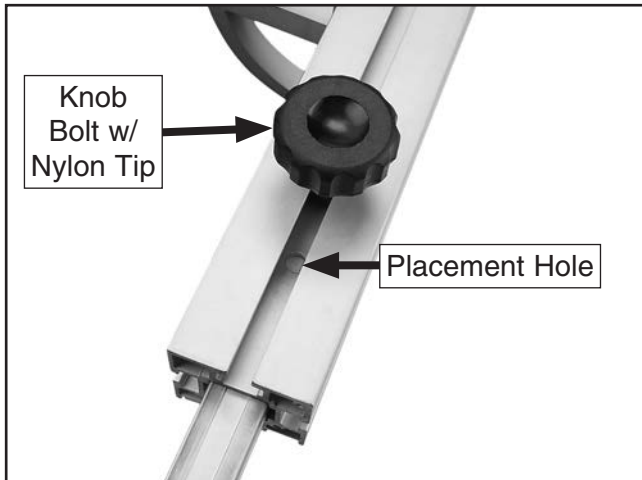

Figure 50. Knob bolt and placement hole (viewed from underneath crosscut fence).
47. From underneath right end of crosscut fence, insert M8-1.25 T-nut into crosscut fence T-slot, then thread M8-1.25 x 25 knob bolt with nylon tip through T-nut and into placement hole (see **Figure 50**). This secures crosscut fence extension in place.